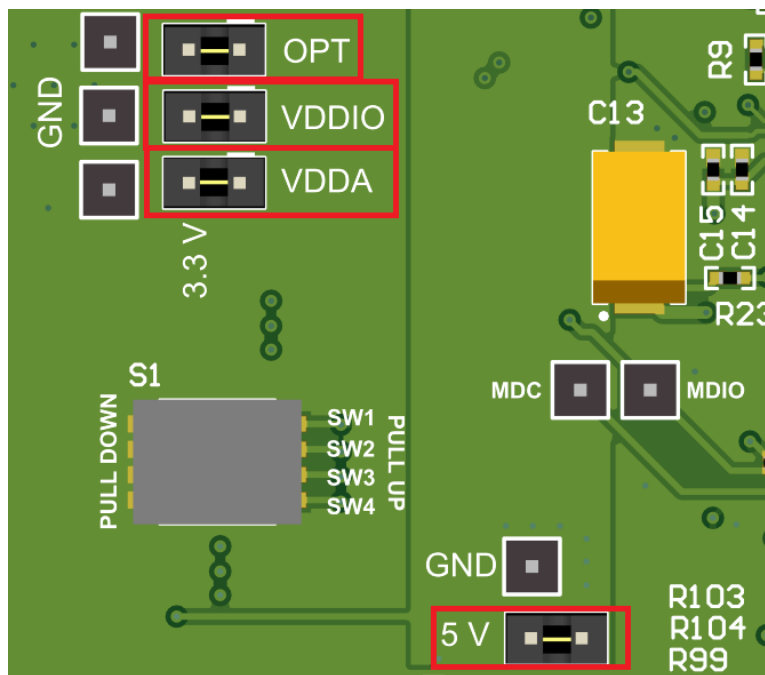

Figure 4. DP83826EVM Power Inputs
**NOTE:** Before supplying power at the 5-12V input, ensure the correct shunts are added to the appropriate headers to properly operate the on-board LDOs as seen in Figure 4.